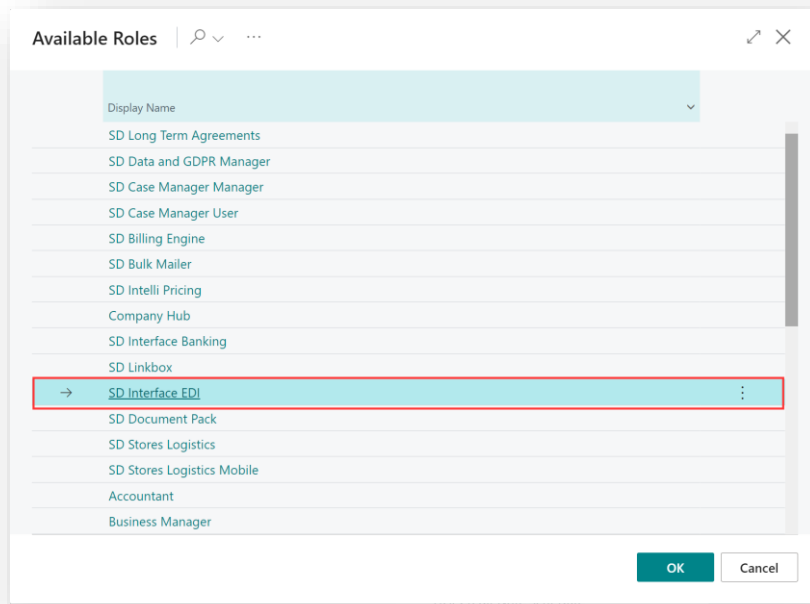

Figure 4-5
3. You should see **SD Interface EDI** in the list of Roles (*Figure 4-5*). Choose **SD Interface EDI** and click **OK**.